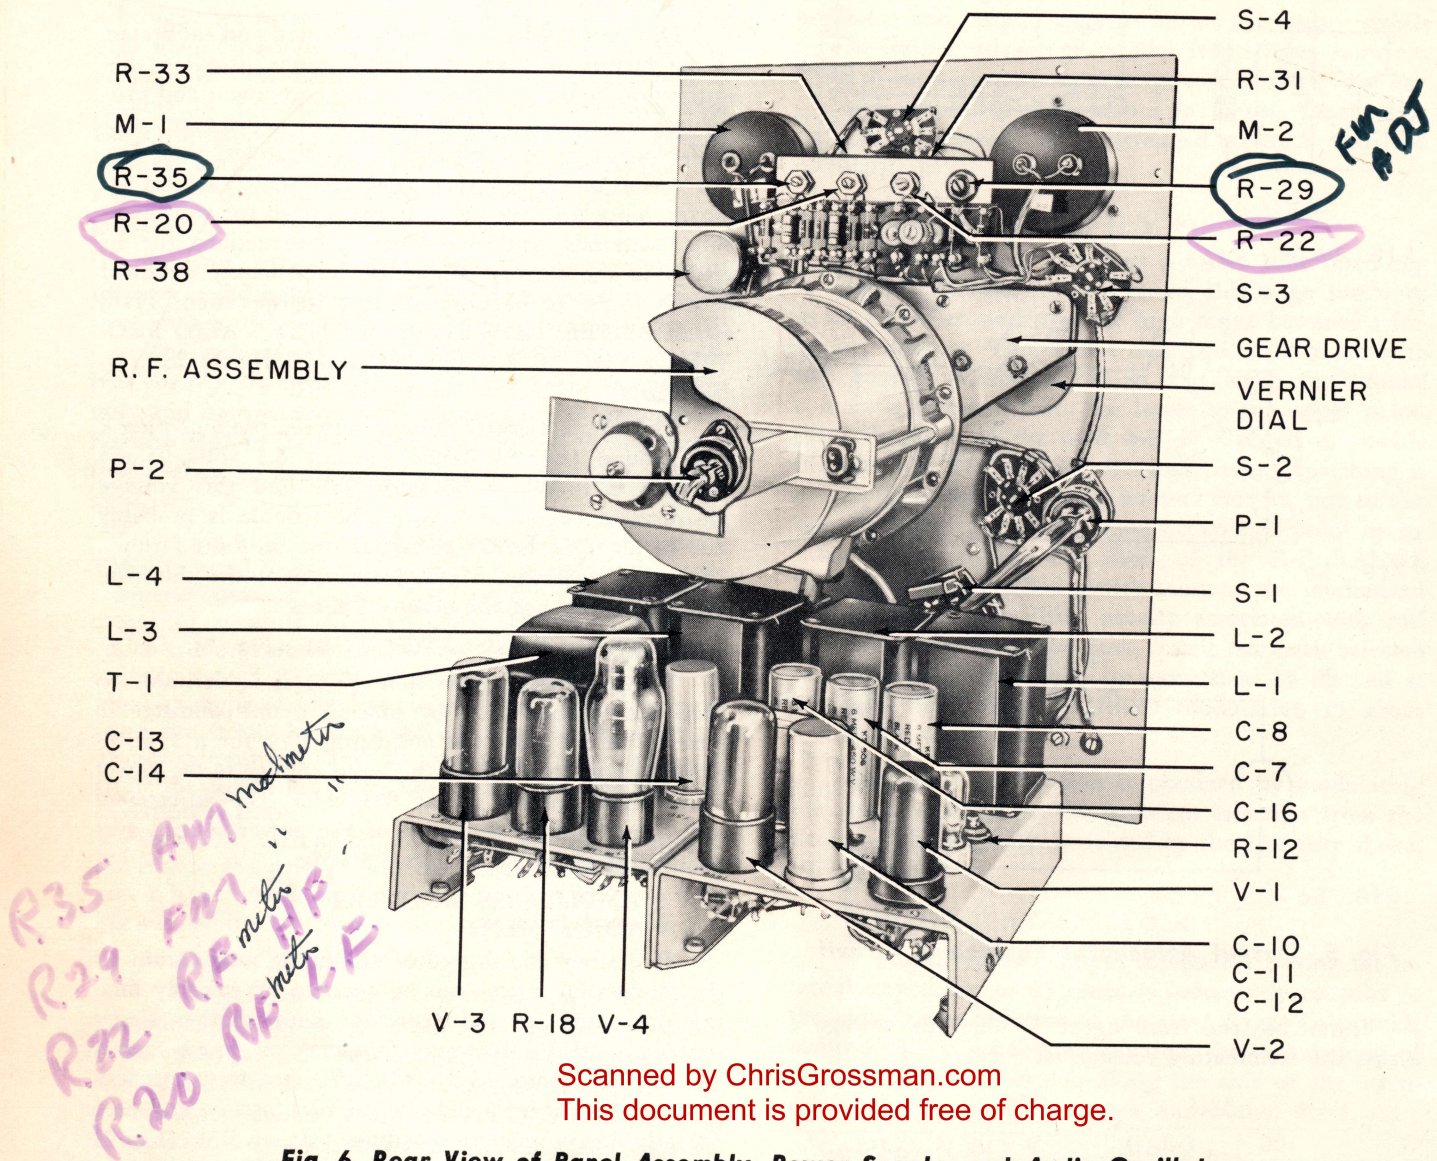
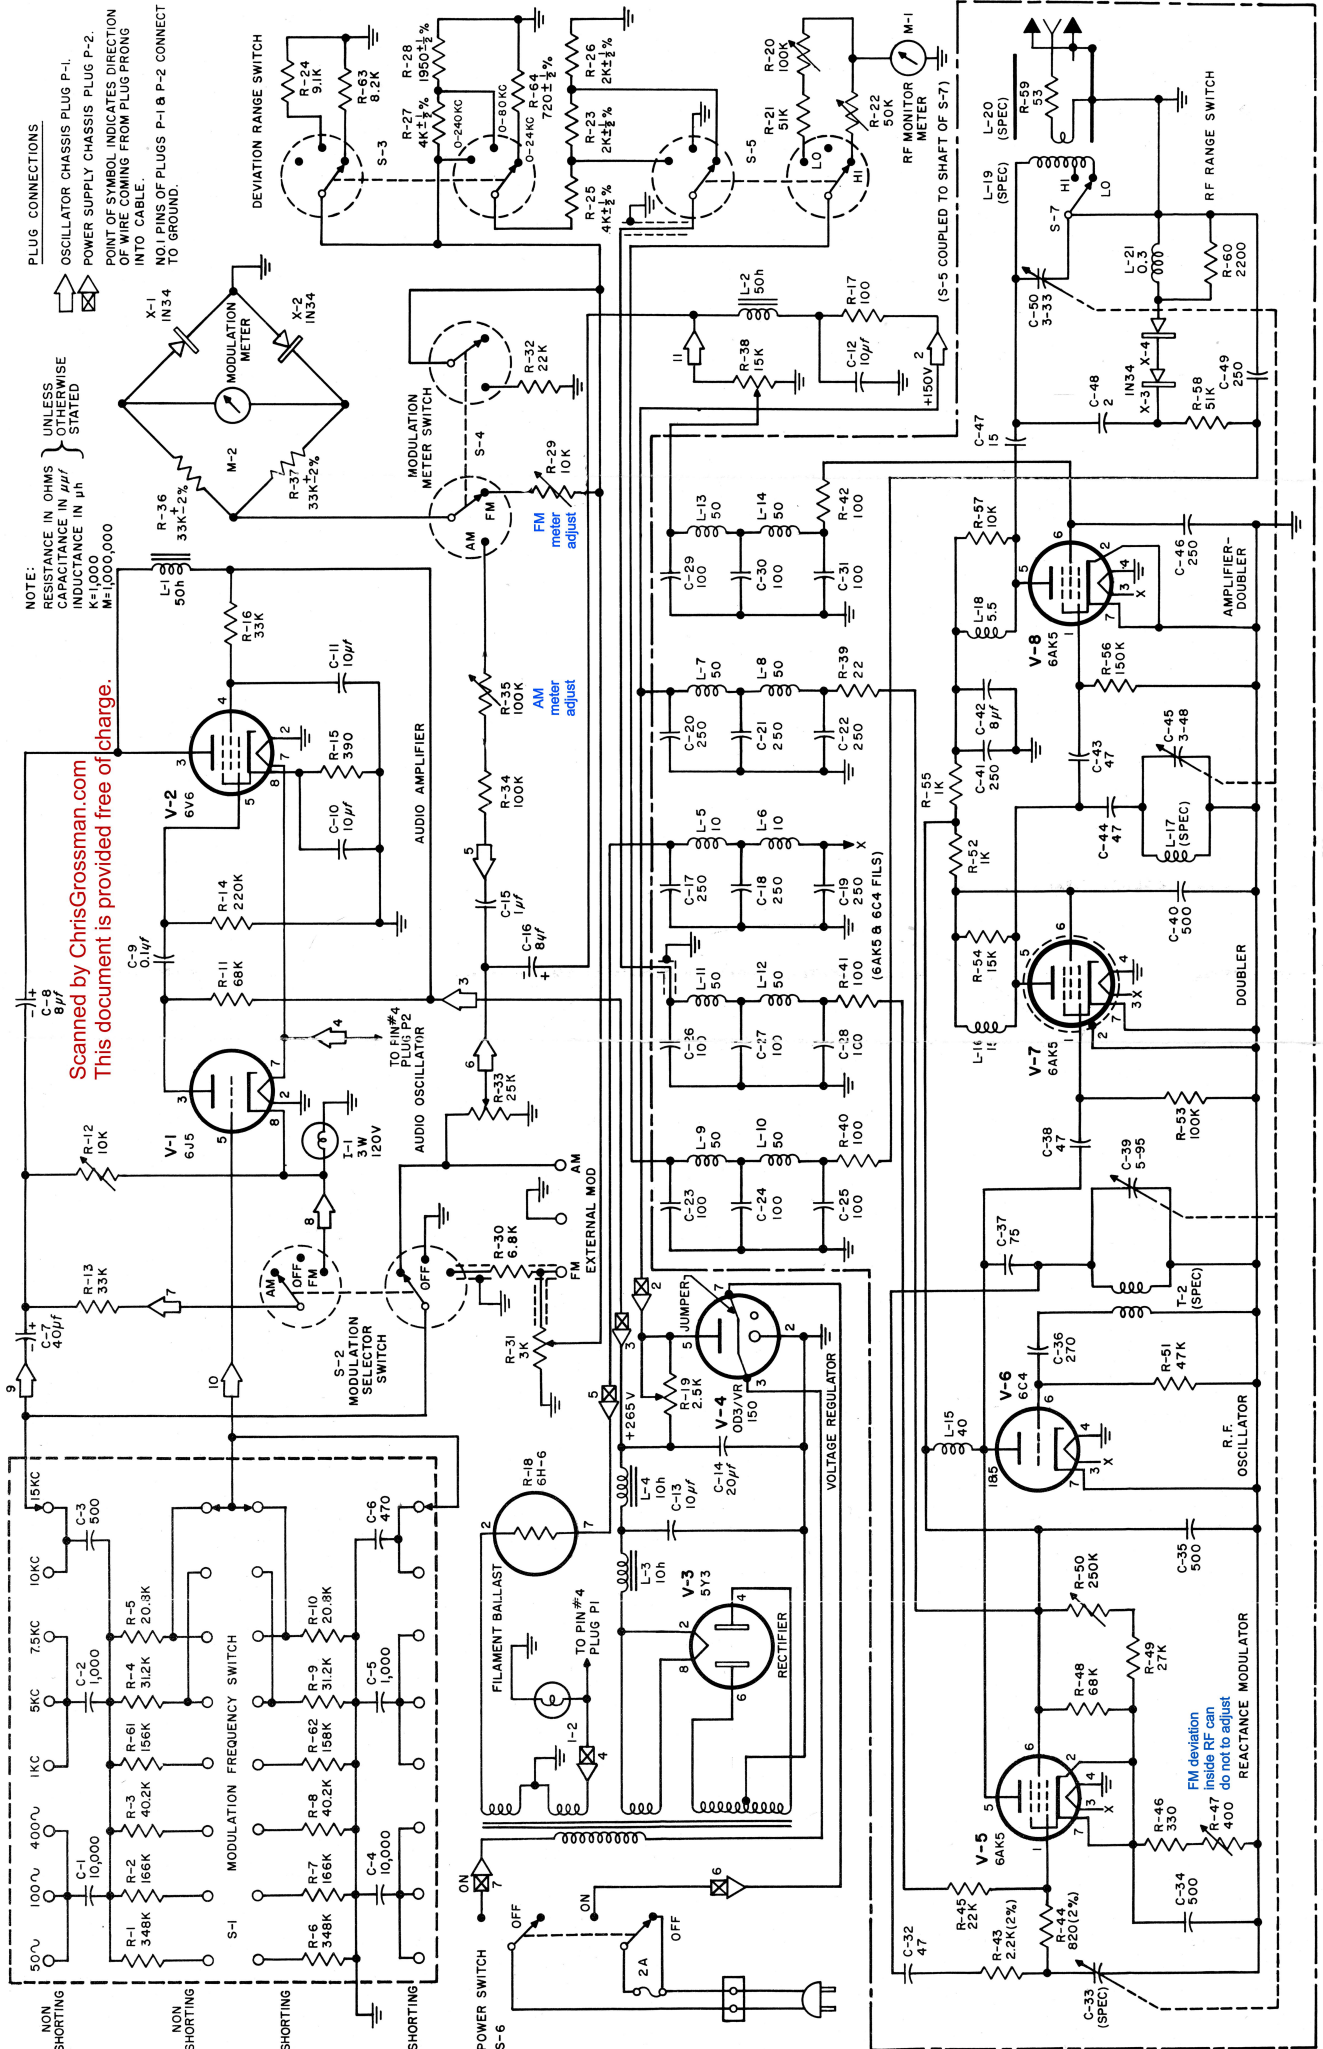

Fig. 6. Rear View of Panel Assembly, Power Supply, and Audio Oscillator
Fig. 8. Schematic Wiring Diagram of 202-B FM Signal Generator
Resistor R50 serves to bleed the proper amount of current through R46, R47 to permit operation of V5 over the most linear portion of its characteristics (fig. 8).
On the high r-f range the modulation voltage for FM is reduced to one half in order to maintain the same frequency deviation (fig. 8). This is accomplished by means of resistors R23, R26, and switch S5 (fig. 8) which is mechanically coupled to the r-f range changing switch. Switch S3 reduces the modulating voltage applied at the reactance tube to one third when operated from the 0-240 kc. deviation position to the 0-80 kc. deviation position, and to one tenth when operated from the 0-240 kc. deviation position to the 0-24 kc. deviation position.
**b. AF OSCILLATOR (Fig. 8).**
**c. R-F OSCILLATOR (Fig. 8).**
**d. AMPLIFIER DOUBLER STAGE (Fig. 8).**
**e. OUTPUT STAGE (Fig. 8).**
*a. R-F UNIT (Fig. 6).*
The 60 cycle heater voltage between pin 5 of plug 2 and ground (fig. 6) should measure 6.3 volts. If the r-f unit is found to be inoperable and this voltage measures in excess of 7 volts, the trouble is probably due to an open heater circuit at one of the r-f tubes. Continued operation of the instrument under this condition will damage the other r-f tubes.
If desired, the degree of amplitude modulation on the modulation meter can be checked by suitably mixing the output of the generator with another signal source such that a difference frequency of approximately 100-150 kc. is produced. This difference frequency can be seen visually on a cathode ray oscilloscope and used for adjustment purposes. Adjustment of R35 (fig. 6) will change the modulation meter AM sensitivity to agree with that degree of modulation present.
The FM deviation indicated on the modulation meter is controlled by the setting of R29 (fig. 6). A slight adjustment of this control may be made if desired, however the actual deviation sensitivity of the reactance modulator is adjusted by means of R47 (fig. 8) within the r-f shield, and should not be disturbed.